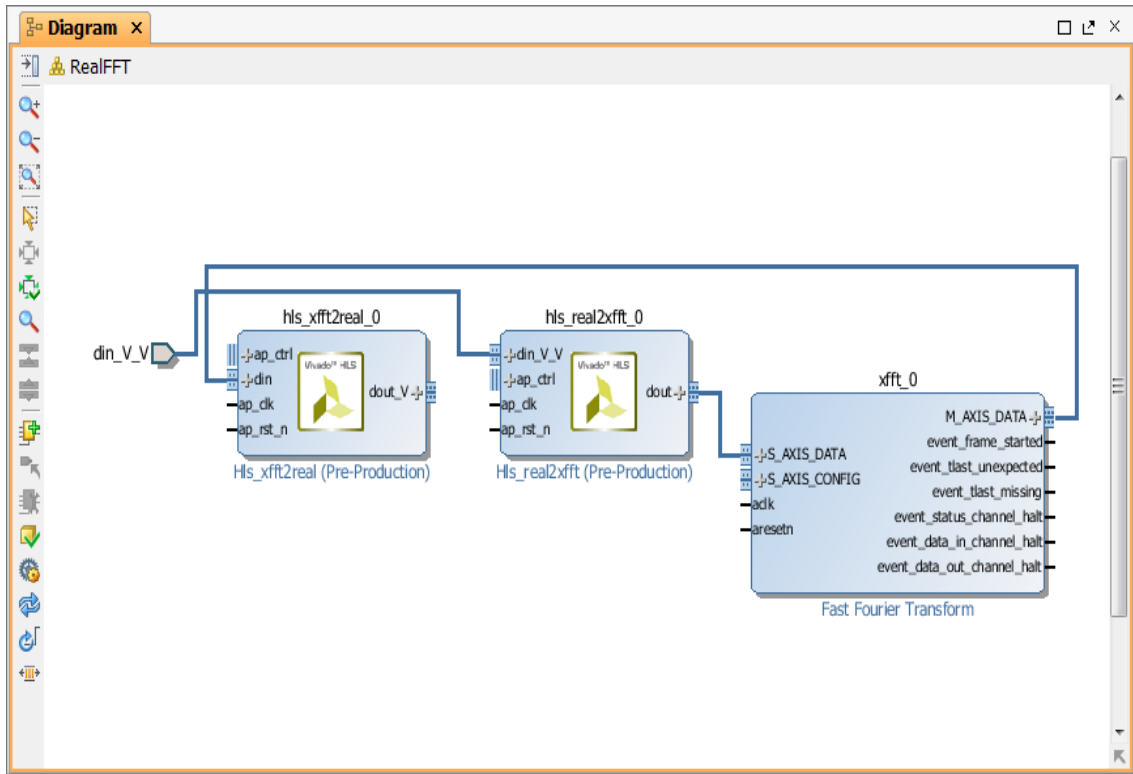

Figure 9-19: Make External Connections
- Right-click the **din_V_V** interface connector on the `hls_real2xfft` block and select **Make External** (Figure 9-19).